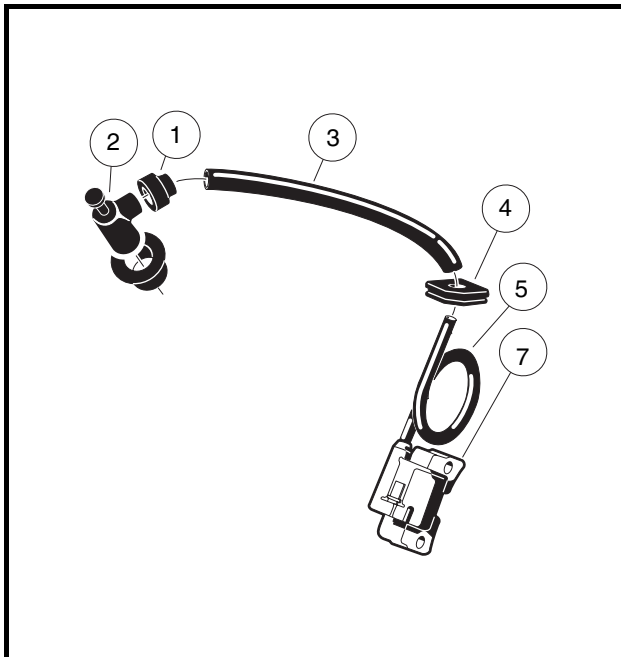

Figure 12-21 Ignition Coil and Cap
- 4.1. Remove the rubber gasket (1) on the plug cap (2) by rolling back the gasket onto the spark plug wire (3) (**Figure 12-21, Page 12-23**).